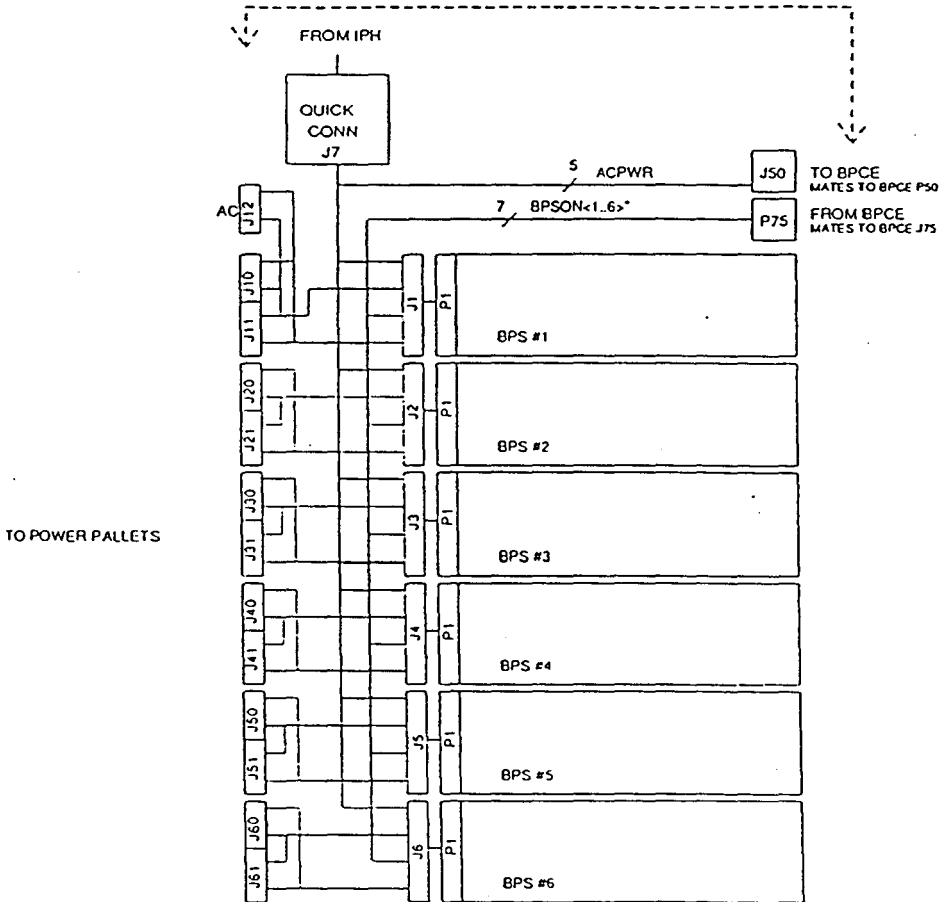

Figure 1-3a
2.2 Bay Power Unit (Figure 1-3a, 3b)